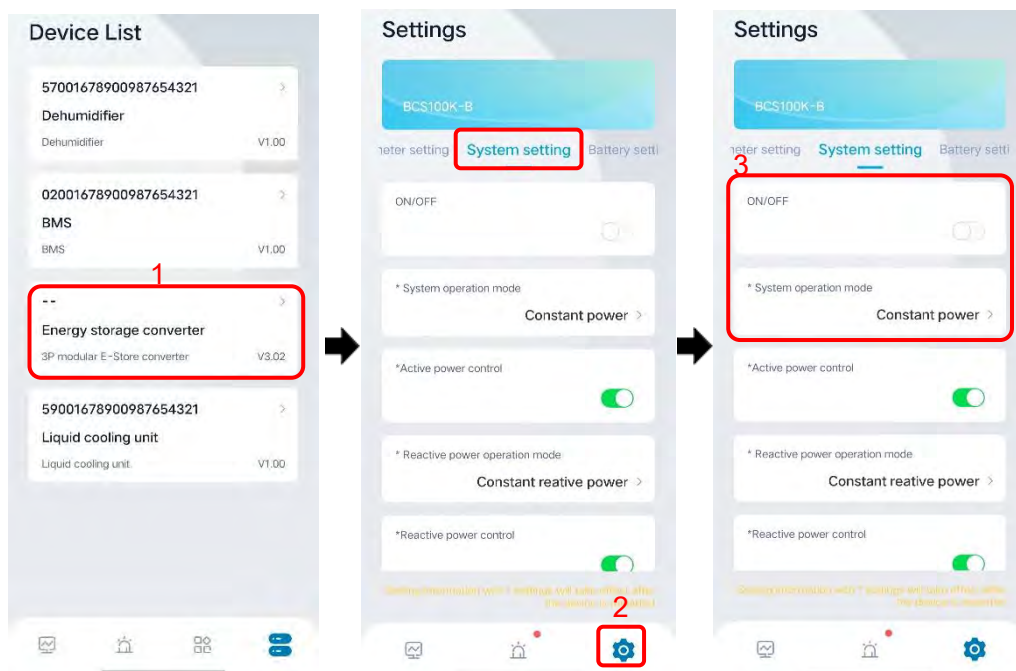

Figure5-22 ON/OFF procedure
- Step 1 Select "Energy storage converter" for monitoring in the device list page (see "5.3.2 Monitoring Page" for entering operation), as shown in "1" in Figure5-22.